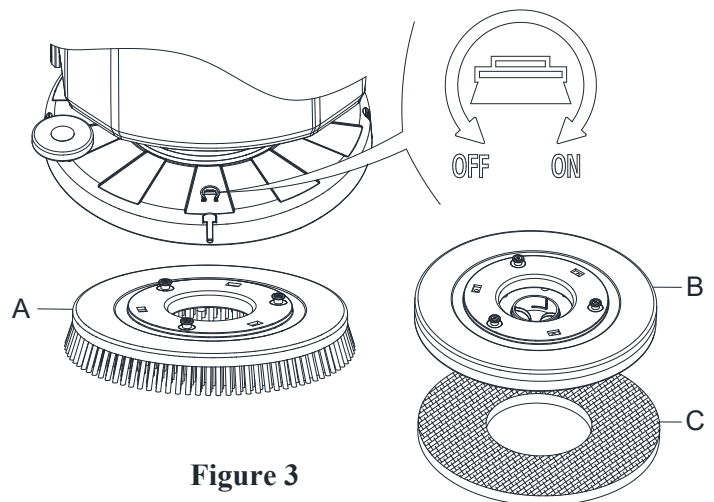

Figure 3
Install either the brush (A, Figure 3) or pad-holder (B and C, Figure 3) according to the type of floor to be cleaned.
3. Place the brushes (A, Figure 3) or the pad-holder (B, Figure 3) under the deck (12, Figure 1).
7. If Step No.6 above proves to be difficult, use the manual method by turning the brush/pad-holder in the direction opposite to the normal turning direction (ON) to install the brush/pad-holder. (as shown in Figure 3)